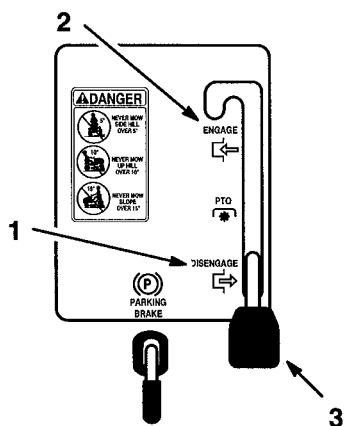

Figure 5
2. Move the blade control (PTO) to "ENGAGED" (Fig. 5).
2. Move the blade control (PTO) to "DISengaged" (Fig. 5).